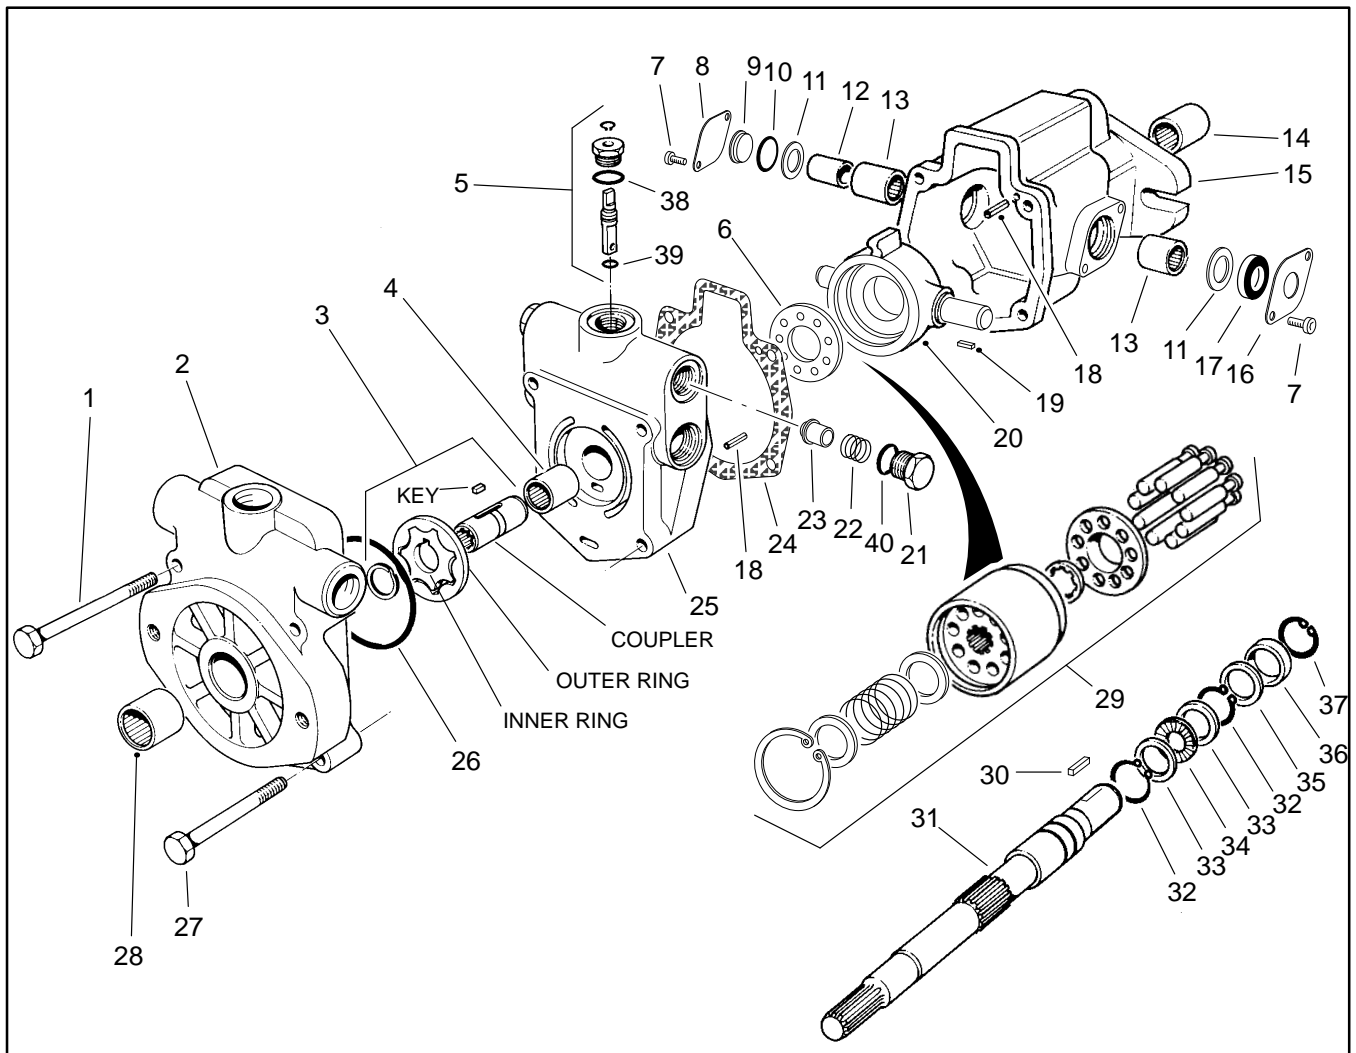

Figure 24
Disassembly (Fig. 24)
3. Inspect backplate assembly (25) (see Fig. 24).
4. Inspect camplate assembly (20) (see Fig. 24). There should be no signs of scoring on the piston shoe surfaces.
5. Inspect housing assembly (15) (see Fig. 24).
Reassembly (Fig. 24)